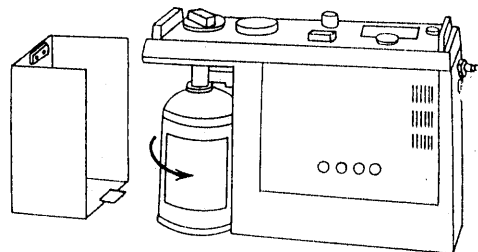

Fig. 5
- 1) Open a left side cover of instrument proper, set hydrogen gas container to a hole of container valve and turn it clockwise fully (See fig. 5)